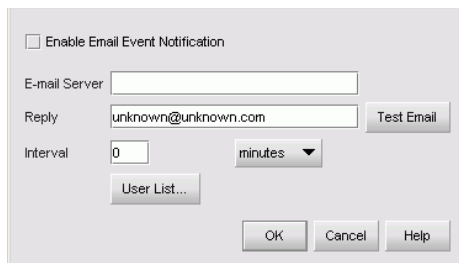

Figure 2-59 Email Event Notification Setup Dialog Box
2. At the EFCM or SANavigator main window, select the *Event Notification* and *Email* options from the *Monitor* menu. The *Email Event Notification Setup* dialog box displays (Figure 2-59).